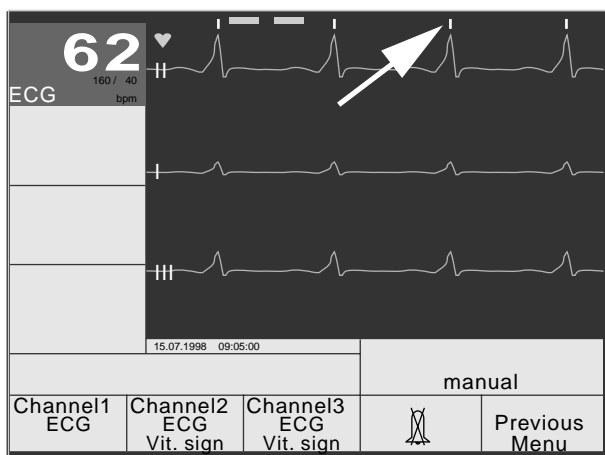

Figure 4-19. SYNC marker above QRS complex
- a SYNC marker appears above each QRS complex (Figure 4-19), and